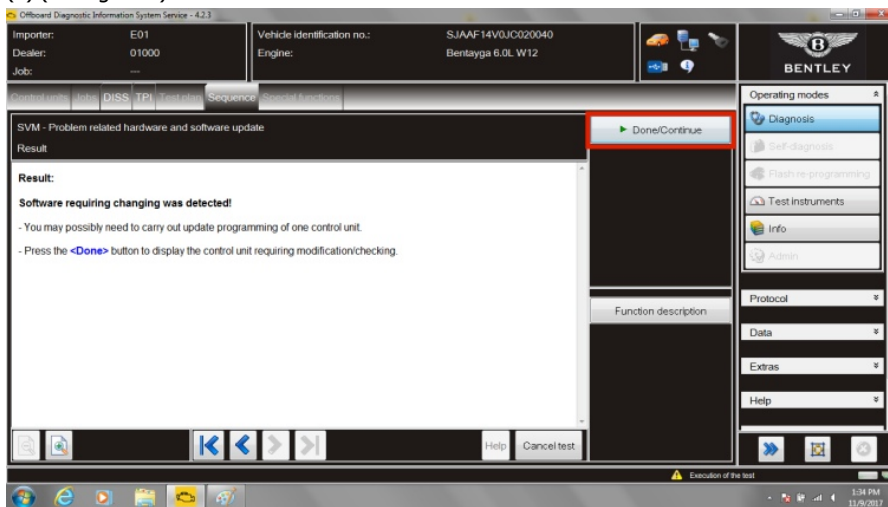

Figure 3
- Once software that requires changing is detected select Done/Continue (see Figure 3) Note: each of the four control units will be offered for software update individually by the program. Follow prompts, the online connection will deliver the required software to the tester